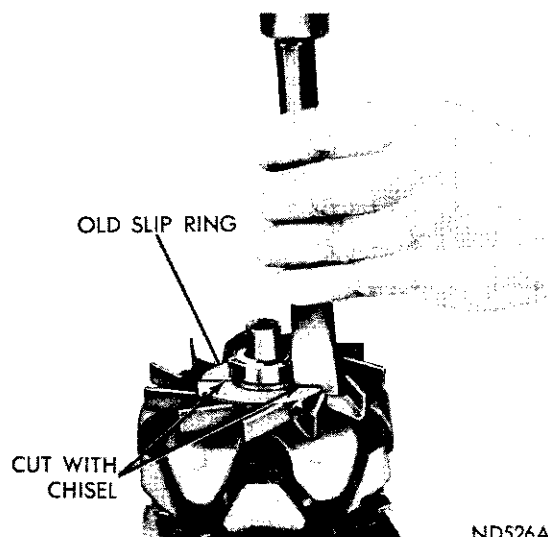

Fig. 23—Cutting Old Slip Rings
- (c) Use a chisel to cut through the copper of both slip rings at opposite points (180° apart) (Fig. 23).